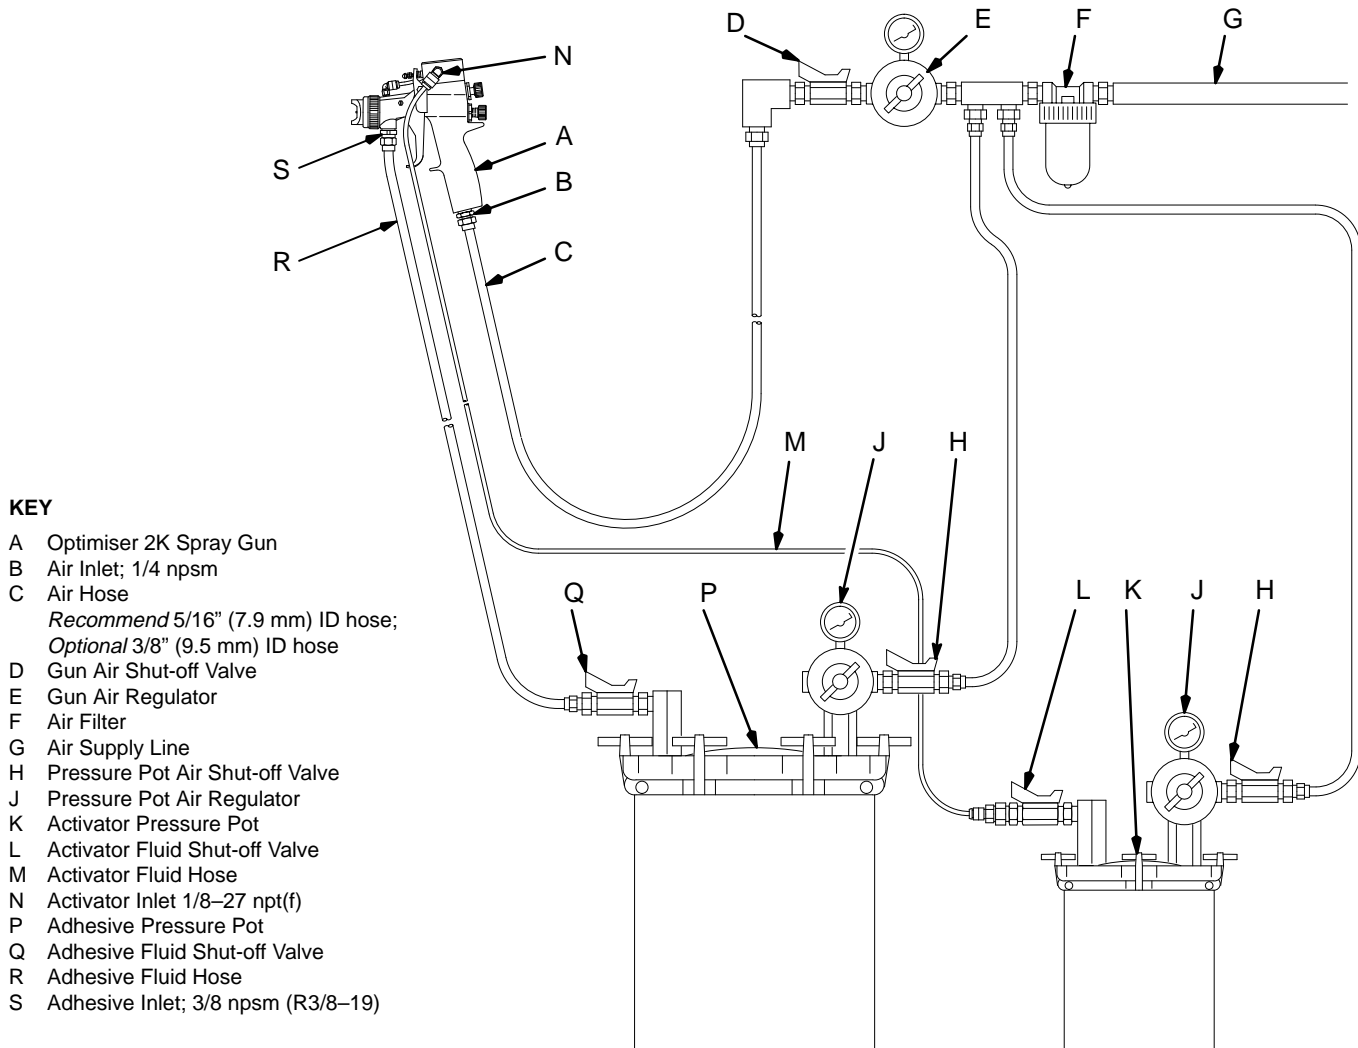

Fig. 1
- Refer to Fig. 1 and see Form No. 305–591 for the accessories recommended to install the system. Consult with the fluid supplier or Graco for specific recommendations.
- The gun air line must have an air regulator (E) to control air pressure to the gun. See Fig. 1.
- If the gun air source does not have a filter, install a filter (F) on the gun air line to ensure a dry, clean air supply.
- B. Connect the other end of the fluid hose (R) to a regulated fluid supply line (U—see Fig. 9) or a pressure tank (P—see Fig. 1, page 6).